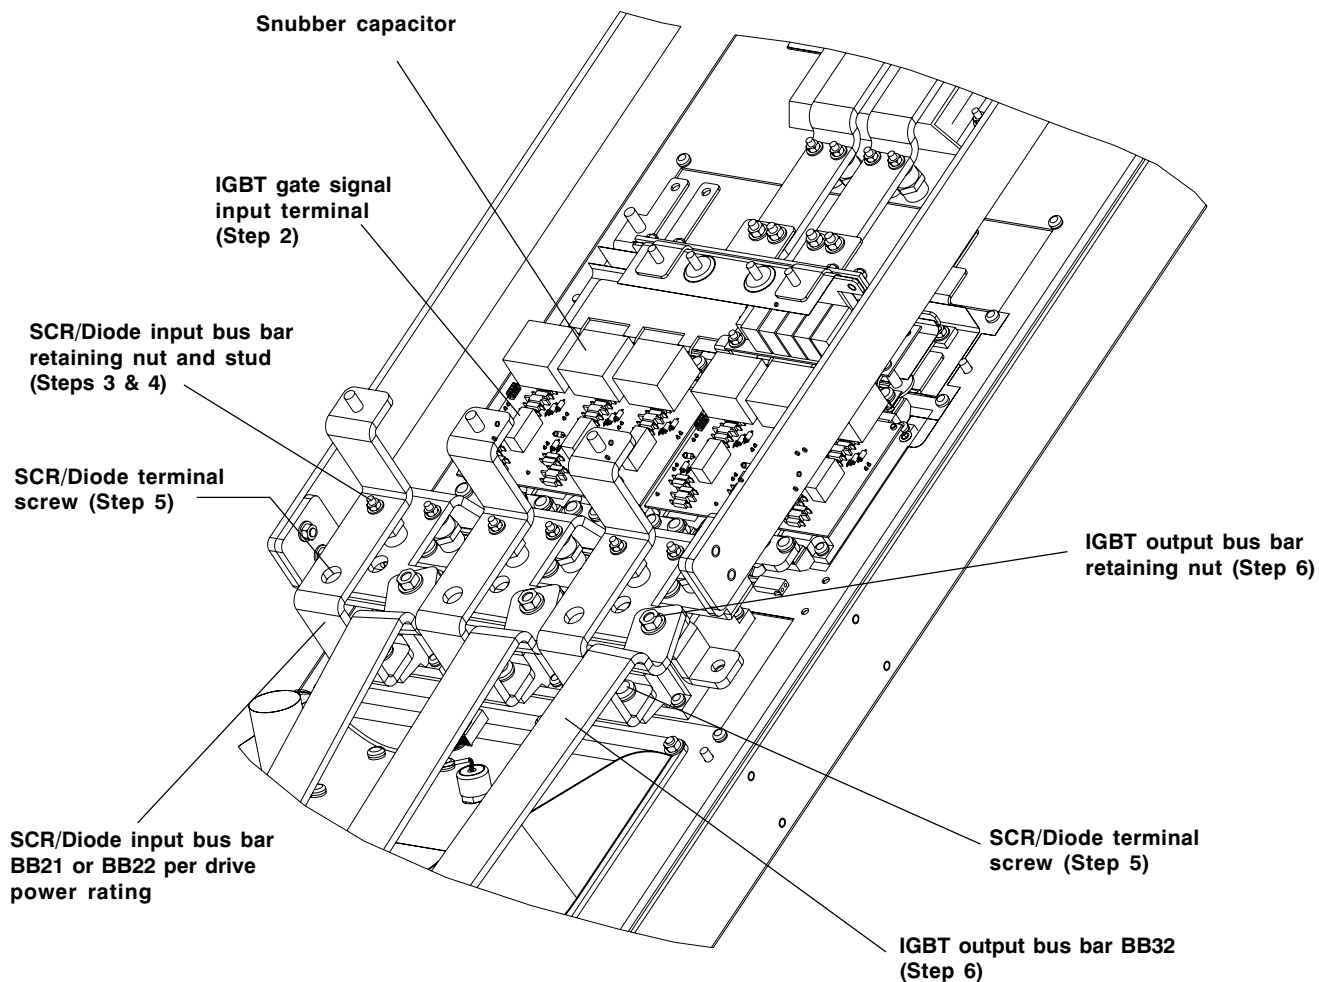

Figure 6-15. D2 IGBT Modules (1 of 3)
8. Remove 12 retaining screws (6 on each module) on upper portion of IGBT modules. These screws also attach the snubber capacitors to the IGBT modules (see Figure 6-15, 1 of 3 for snubber capacitor location). Remove the snubber capacitors.